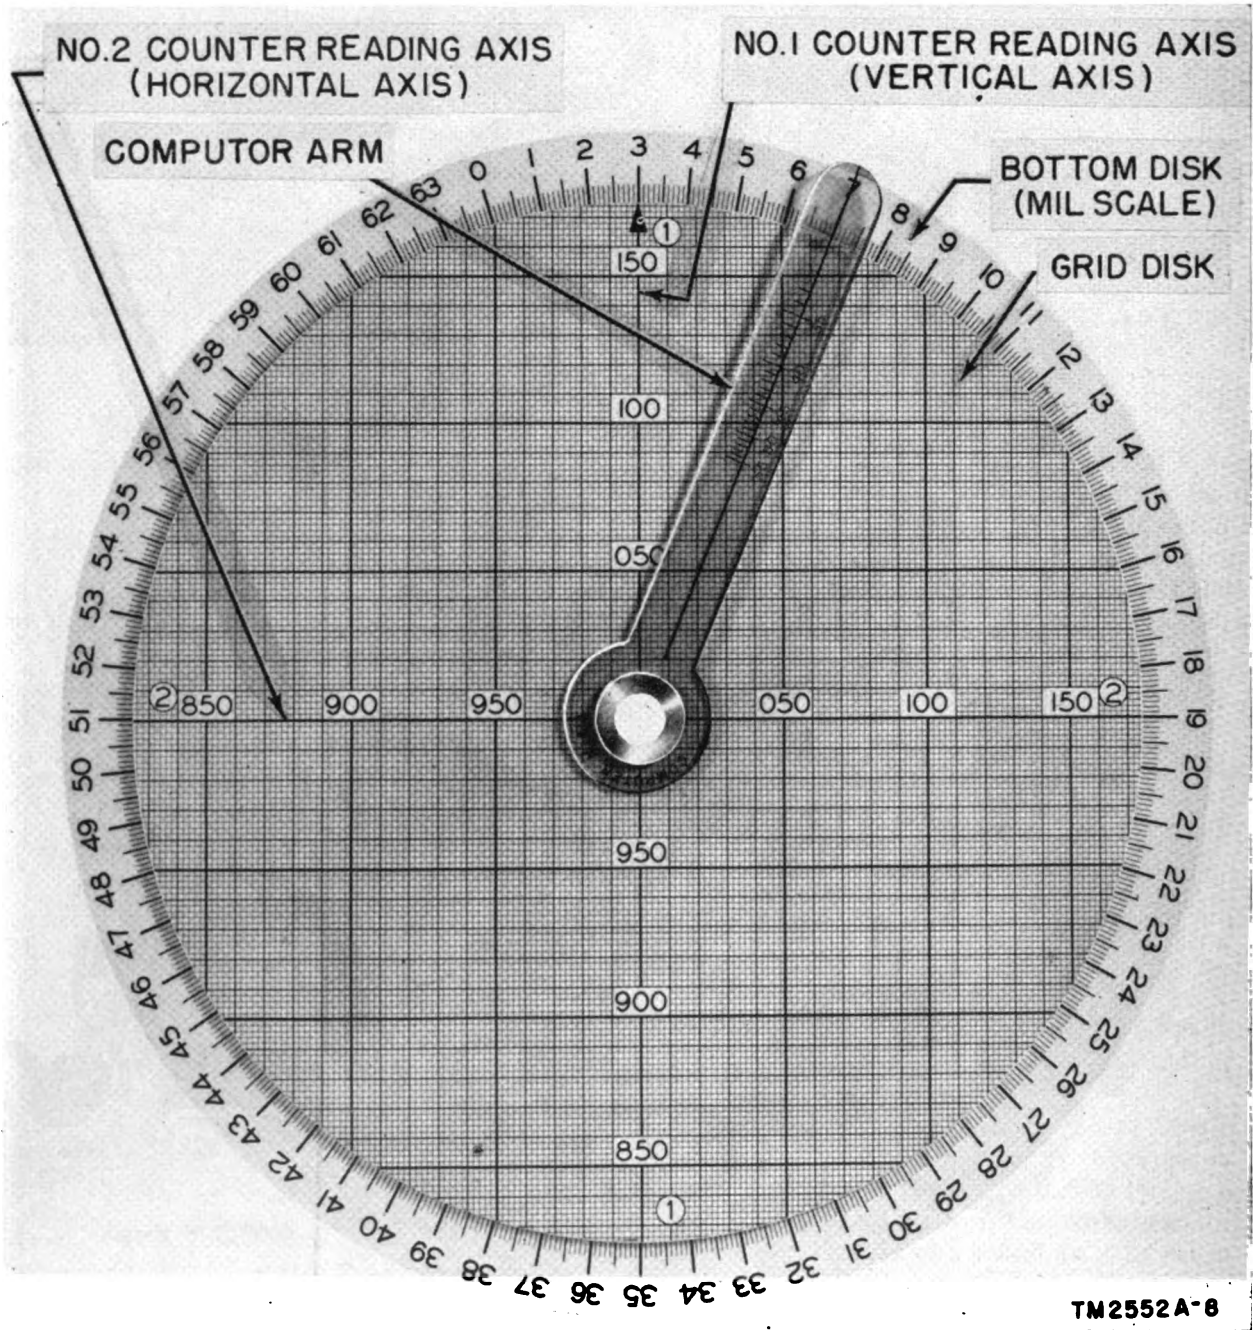

Figure 8. Computer M-414.
c. COMPUTER M-414 (fig. 8). Computer M-